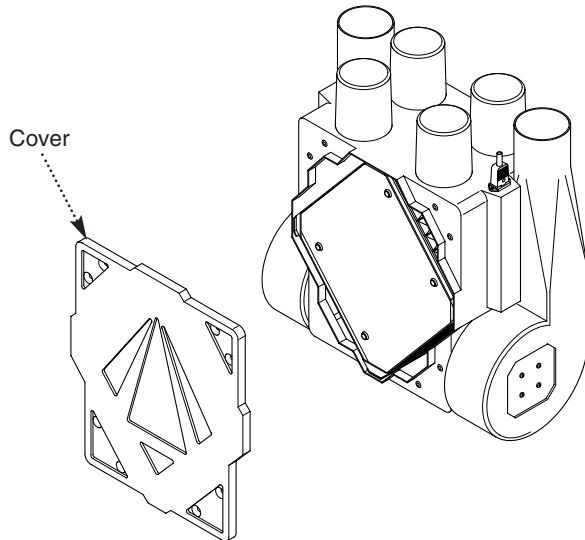

Fig. 20
4. Undo the captive retaining screws and remove the cover (Fig. 20).